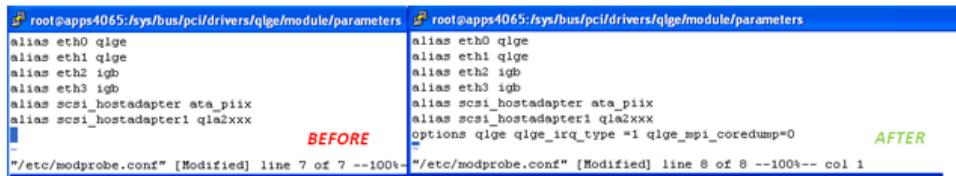

Figure 6-23. Example modprobe.conf
2. Add the options line for the appropriate driver setting (Figure 6-23), save the file, and then exit the editor.